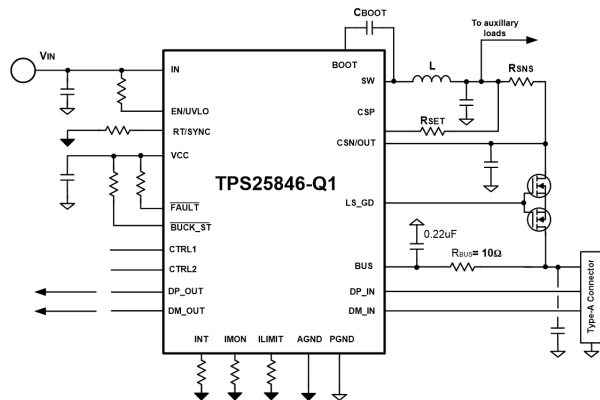

Figure 10-14. Current Limit with External MOSFET
- With external MOSFET Figure 10-14:
The TPS25846-Q1 has integrated NFET gate drivers, and can support current limit with external NFET. Refer to Figure 10-14.